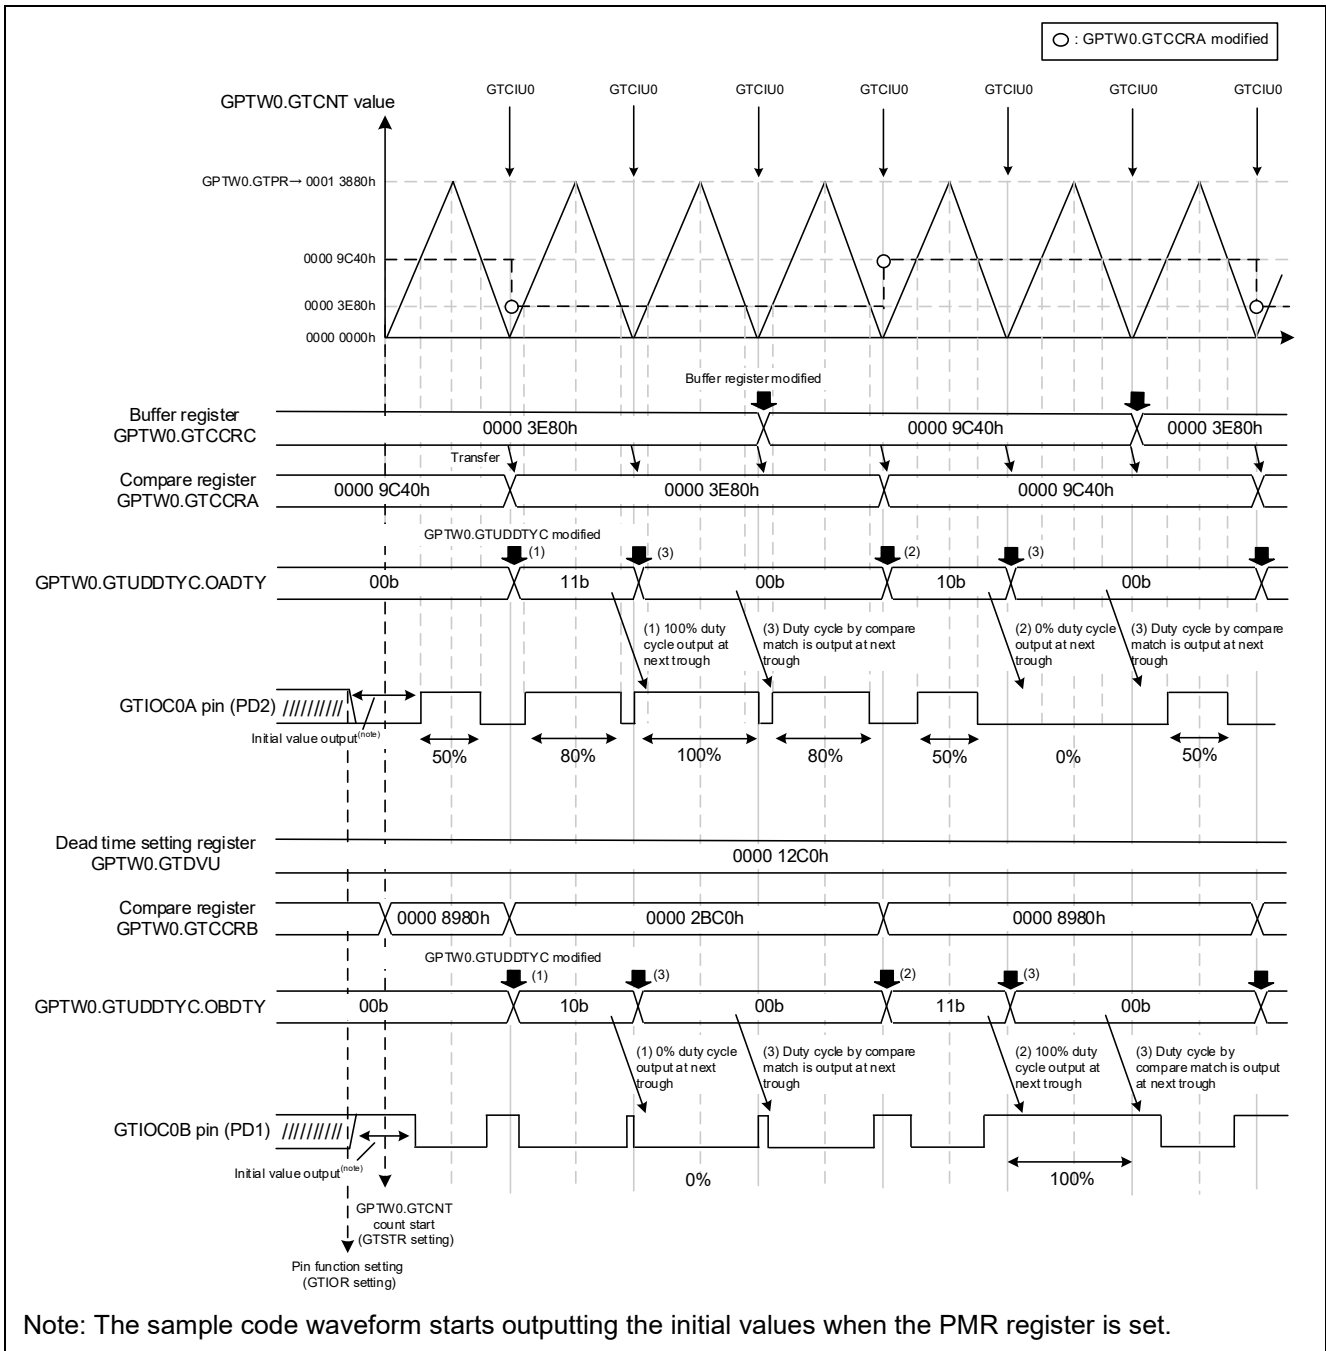

Figure 4.114 Sample Code Operations
- Refer to Figure 4.114 for details on duty change timing
The sample code operations are shown in Figure 4.114. The basic operation is to make changes to the settings of the duty cycle with each period by modifying the value of buffer register GTCCRC at the GTCNT counter underflow interrupt (GTCIU0) and transferring the value of the buffer register to the GRCCRA when a GTCNT counter underflow occurs.
- 100% Duty Cycle Output ((1) in Figure 4.114)
- 0% Duty Cycle Output ((2) in Figure 4.114)
- Switching from Duty Cycles 100% and 0% ((3) in (Figure 4.114)